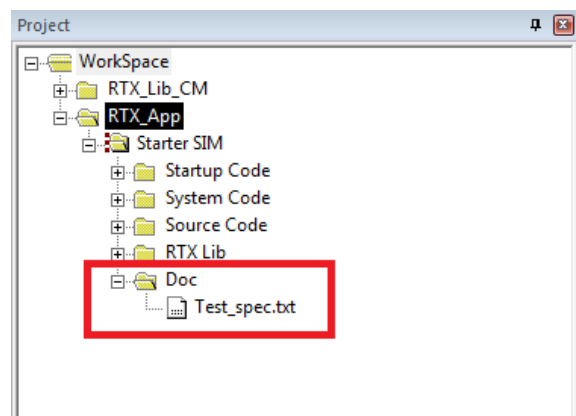

Figure 2.2: Keil IDE: Location of Test Specification File.
3. A test description file to describe what each testing task does. Name the file `Test_spec.txt`. This file is added to the RTX application project as shown in Figure 2.2.